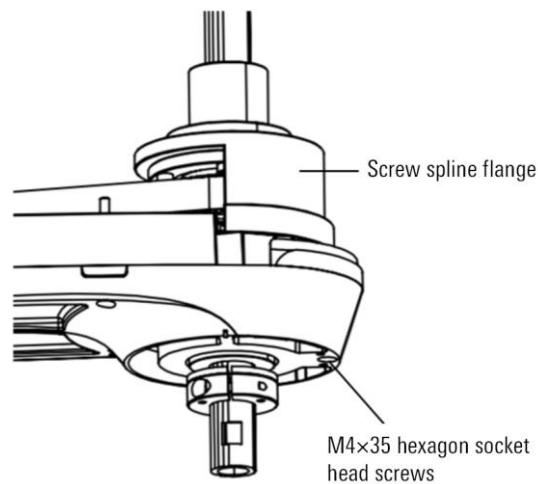
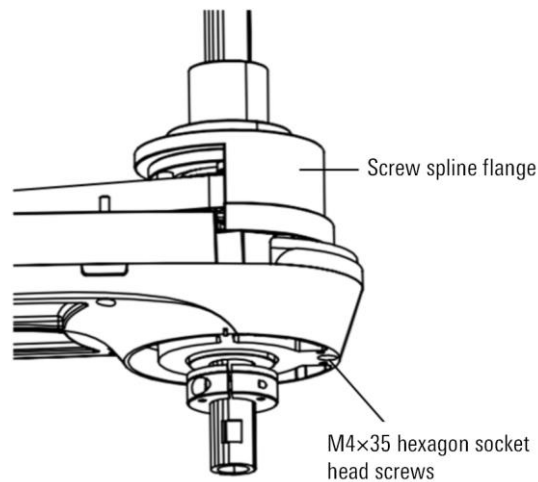

Figure 8-9 Diagram of disassembling screw spline flange
Figure 8-15 Diagram of disassembling screw spline flange
- Step6. Use an Allen wrench to remove the 7 M4×35 hexagon socket head screws for mounting the screw spline flange from the lower end of the forearm, and move the screw spline flange upward, as shown in Figure 8-9.
- Step5. Use an Allen wrench to remove the five M3×35 hexagon socket head screws for installing the screw spline flange from the lower end of the forearm, move the screw spline flange upward, and remove the fixed screw spline method from the lower end of the forearm. The five M3 screws used for the flange are shown in Figure 8-9, and the screw spline flange is removed upward, as shown in Figure 8-15.